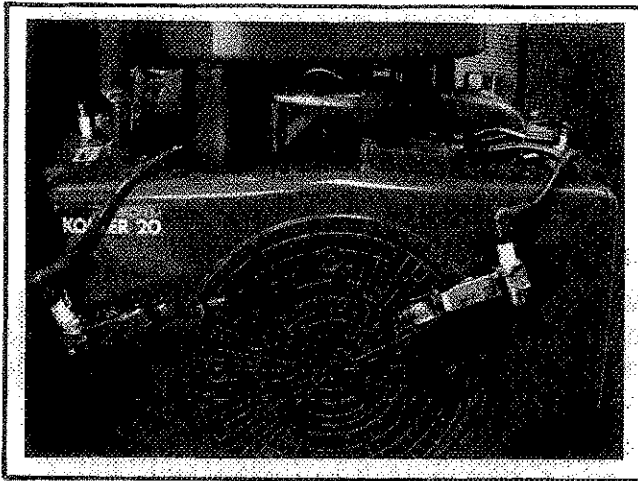

Figure 8-2. Ignition System Tester.
3. Check ignition module using test plugs (refer to the "Special Tools" section and Figure 8-2.)  a. Remove the high-tension leads from the engine spark plugs, and connect them to the test plugs.  NOTE: To maintain engine speeds normally obtained during cranking, do not remove the engine spark plugs.  b. Make sure the engine ignition switch (kill switch) and/or keyswitch are in the "run" position.  c. Crank the engine and observe the test plugs. Visible and audible sparks should be produced.	If visible and audible sparks ARE produced, the ignition module is OK.  If visible and audible sparks ARE NOT produced:  a. Make sure engine ignition switch and/or keyswitch are in the "run" position.  b. Check wires and terminals of ignition module and other components for accidental grounding and/or damaged insulation.  c. If wires and terminals are OK, the ignition module is probably faulty and should be replaced. Test module further using an ohmmeter (Test 4).